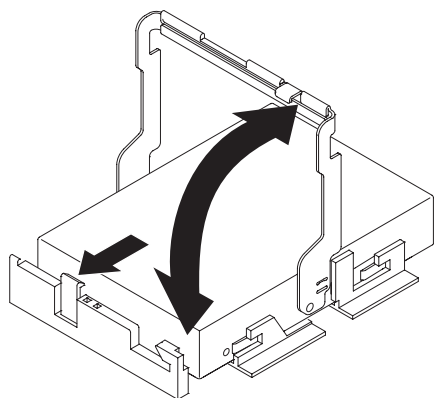

Figure 75. Raising the drive handle
a. Raise the drive handle to the vertical position, as shown in Figure 75.